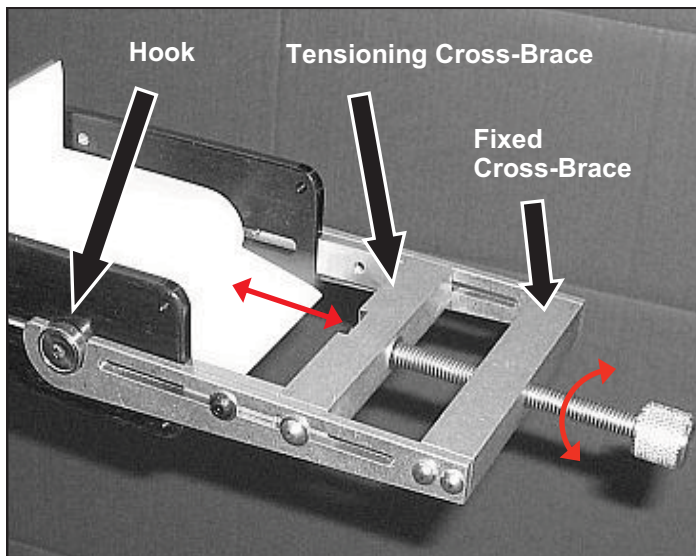

Fig. 27
2. Install the belt tensioning tool with hook connector over the belt tension lock screw washers. (See arrows, Fig. 27.)
3. To adjust the belt tracking, tighten (clockwise) the tensioning tool knurled adjustment knob in about 1/16-turn increments until the belt is center tracking. See Fig. 27 below.
4. Run the conveyor an additional 1-2 minutes to assure the belt continues to center track. Make any final adjustments required, per Fig. 27 below.